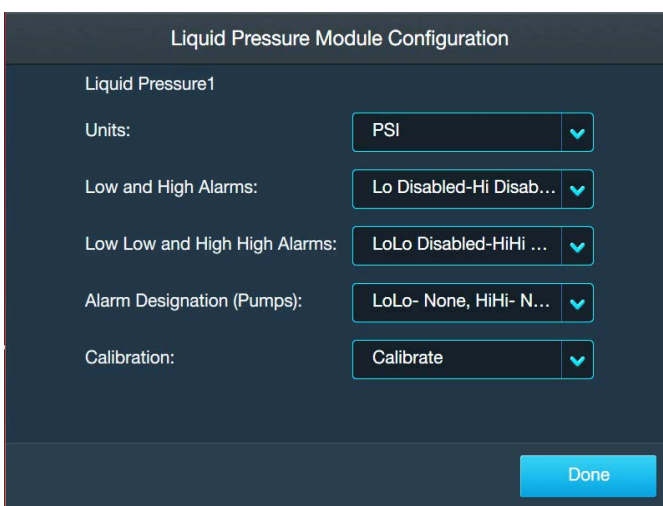

Figure 3.49. Liquid Pressure Module Configuration screen.
Use the following information and steps to configure the Liquid Pressure module. Each of the fields below is shown in Figure 3.49.
1. Locate the Liquid Pressure module on the Touchscreen Console Home screen, and touch **Configure**. The Liquid Pressure Module Configuration screen will appear (Figure 3.49). Touch the **Units** field.